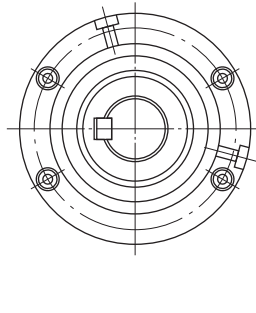

Figure 3/ Figura 3
- For backstops and freewheels designs 221 and 222, after positioning one of the screws (12) in the vertical position, the lubrication is done similarly to the procedures described in item b (see figure3).